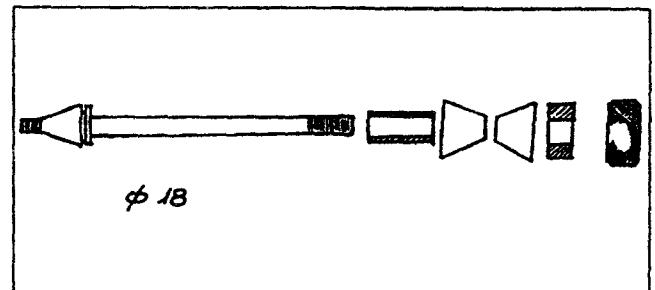

Fig.15
**#4018396 MS18 kit (Fig. 15).**